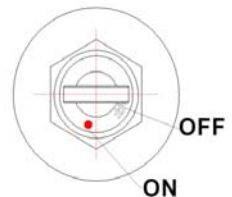
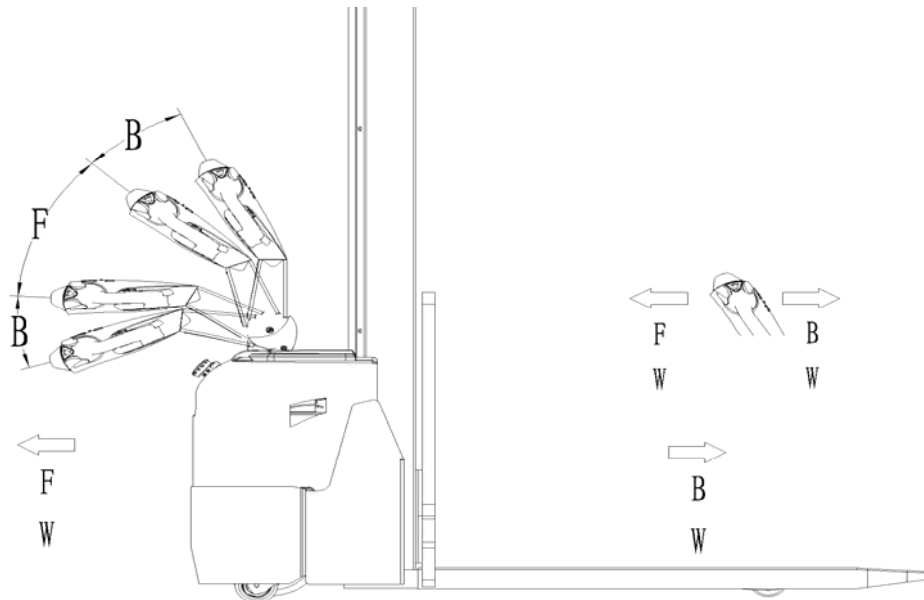

Fig.8: Key switch
Fig.11: Operating direction
After starting the truck by turning the inserted key to the "ON"- position (fig. 8); and eventually by pulling the emergency button (9) carefully, move the tiller to the operating zone ('F', fig.11).
Turn the accelerator button (6) to the desired direction forward 'Fw.' Or backwards 'Bw.'(fig. 11).